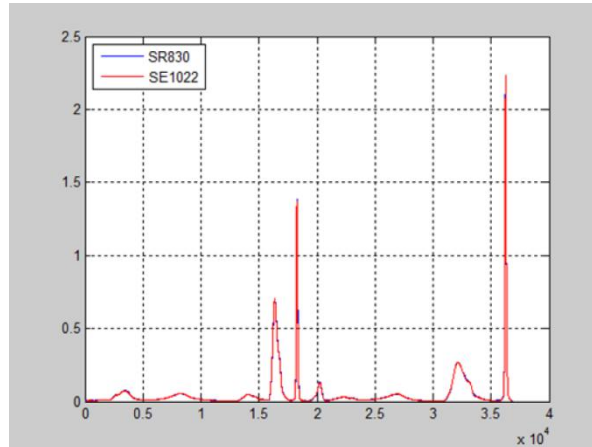

Fig.105 The Contrast Spectrum Curve between SR830 and SE1022
5. Use the SR830 instead of the SE1022 to measure. Repeat the steps above to run the same experiment. Then you will get another spectral curve as is shown in Fig.105. You can see that these two curves measured by SE1022 and SR830 are almost the same.